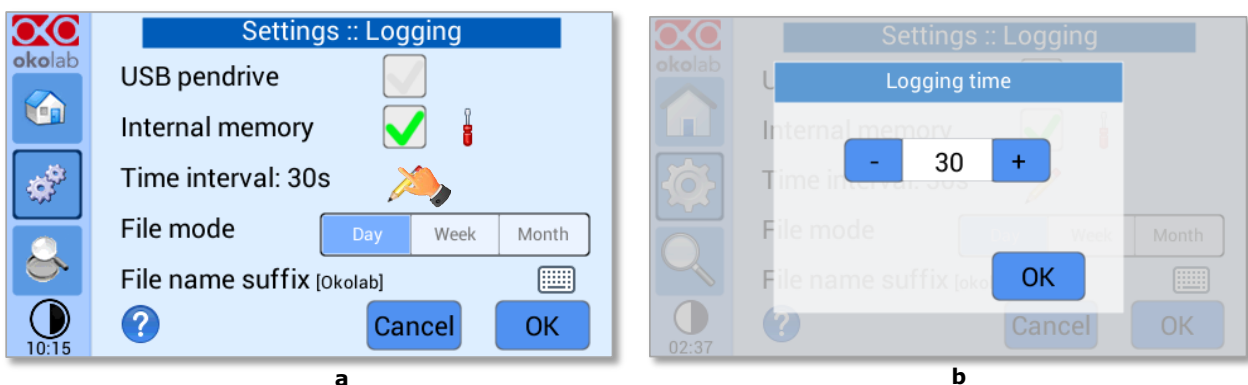
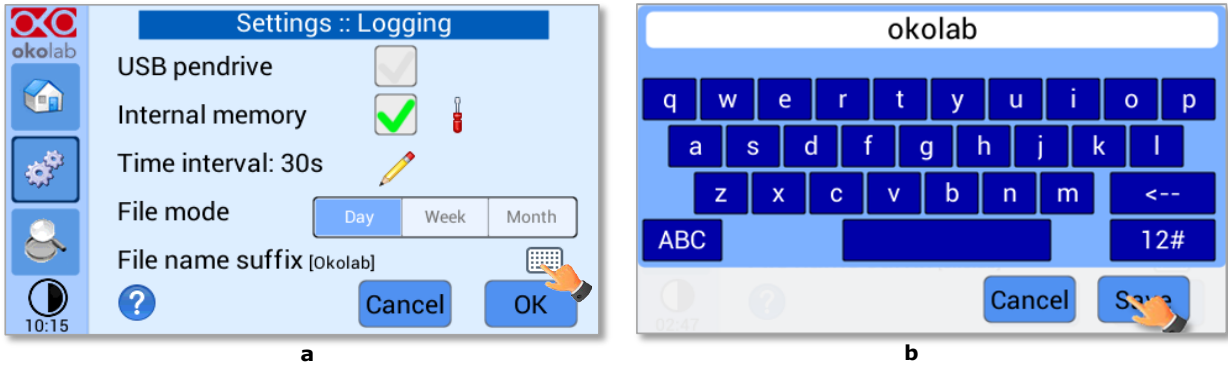
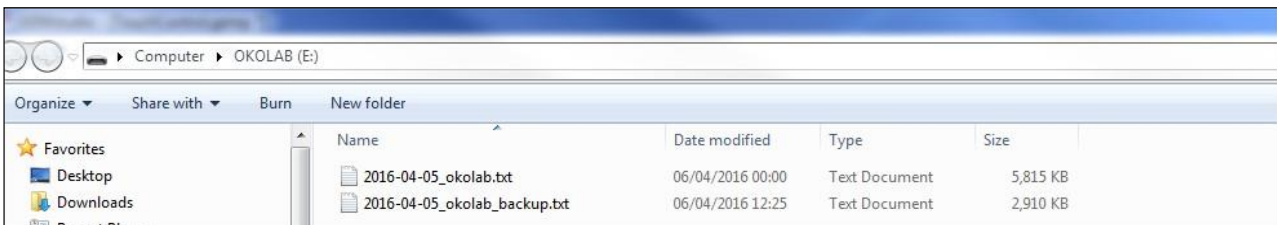

Figure 63. How to set the logging time (a – b).
Figure 64. Data Logging. How to define the suffix for the downloaded files (a – b).
Figure 65. Downloaded files on the pen drive.
- Press on the icon  to insert the *Time Interval* i.e. the frequency with which you want to record a data point, as shown in Figure 63. In this example a data point is logged every 30 seconds, you can change *Time Interval* in the range 1-60 seconds.
- Choose how you want to organize the data when downloaded, by pressing on Day, Week or Month, see Figure 63 a.
5. Write the file name suffix to be reported in the downloaded files by pressing on the keyboard icon , see Figure 64 a.
6. Press Save, see Figure 64 b.
Tip ► With the selections as in Figure 63 and in Figure 64, the data will be downloaded on the USB drive as shown in Figure 65.